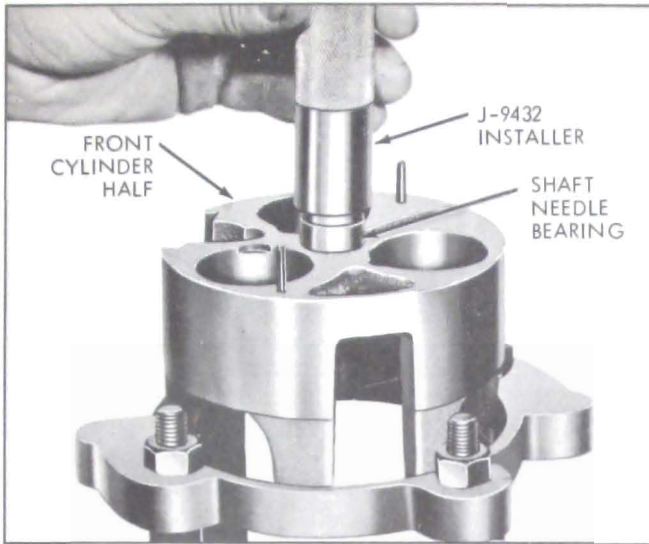

Figure 11-106—Installing Shaft Needle Bearing
16. Examine the shaft needle bearings. There is one in each cylinder half. If a bearing is damaged, remove bearing with a suitable socket or punch. Install new bearing with J-9432 so that lettering on bearing is toward outside of cylinder half. See Figure 11-106.